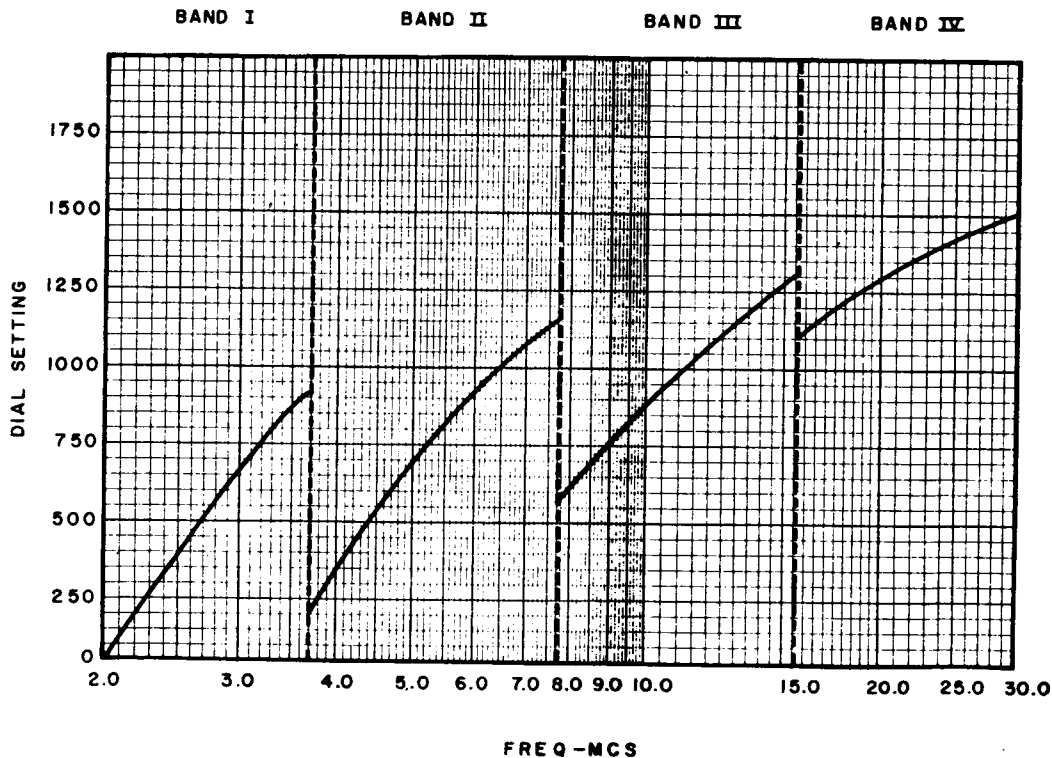
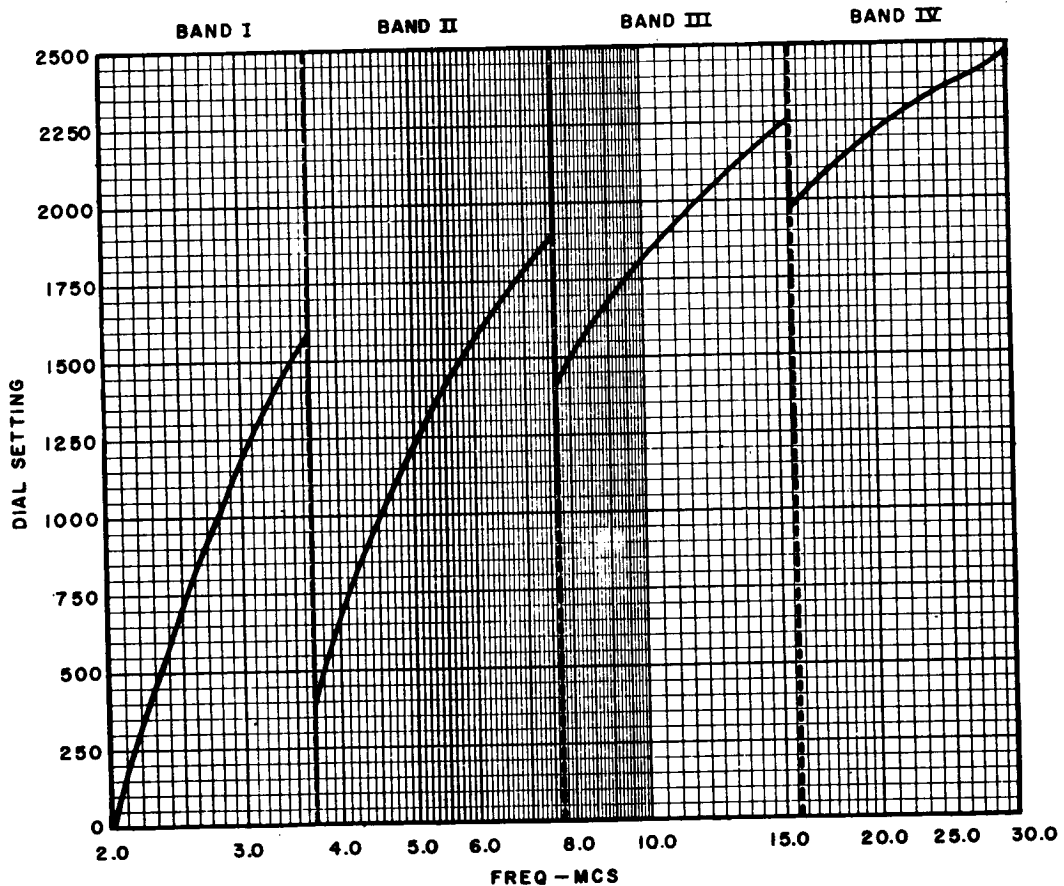

Figure 3-2. Calibration Curve for DRIVER TUNE Control on AM-2061/URT
Figure 3-3. Calibration Curve for PA TUNE Control on AM-2061/URT
(c) Key to transmit and adjust DRIVER TUNE control on power amplifier (within the desired band limits (refer to figure 3-2)) to peak the PLATE CURRENT meter reading; adjust the EXCITER RF GAIN control as necessary to maintain a PLATE CURRENT meter reading of approximately 200 ma. The red index on the DRIVER TUNE control must fall within the proper band limits marked on the panel to prevent tuning on harmonics. If a power output reading is observed on the power output meter of the antenna tuner, detune the PA TUNE control until no power output is indicated. This effectively disables the r-f feedback so that optimum adjustment of the driver plate circuit can be obtained. Reducing EXCITER RF GAIN control for a decrease in PLATE CURRENT meter reading, as necessary, will result in a sharper indication of driver tuning.
(Refer to figure 3-3). Key to transmit and adjust PA TUNE control for a dip in the PLATE CURRENT meter reading.
(3) CALIBRATION OF RADIO FREQUENCY AMPLIFIER AM-2061/URT. - Periodically, the DRIVER TUNE and PA TUNE controls on the AM-2061/URT should be checked for calibration. Figures 3-2 and 3-3 are charts used for this calibration check.
Figure 3-2 is a chart for the DRIVER TUNE control; the chart is divided into four sections, one for each frequency band. Each band has a unique curve showing the relationship of the dial setting to the frequencies of the band. Figure 3-3 is a similar chart for the PA TUNE control. Occasionally, a check should be made in each band with each control to determine if dial settings are proper for the operating frequency in use.